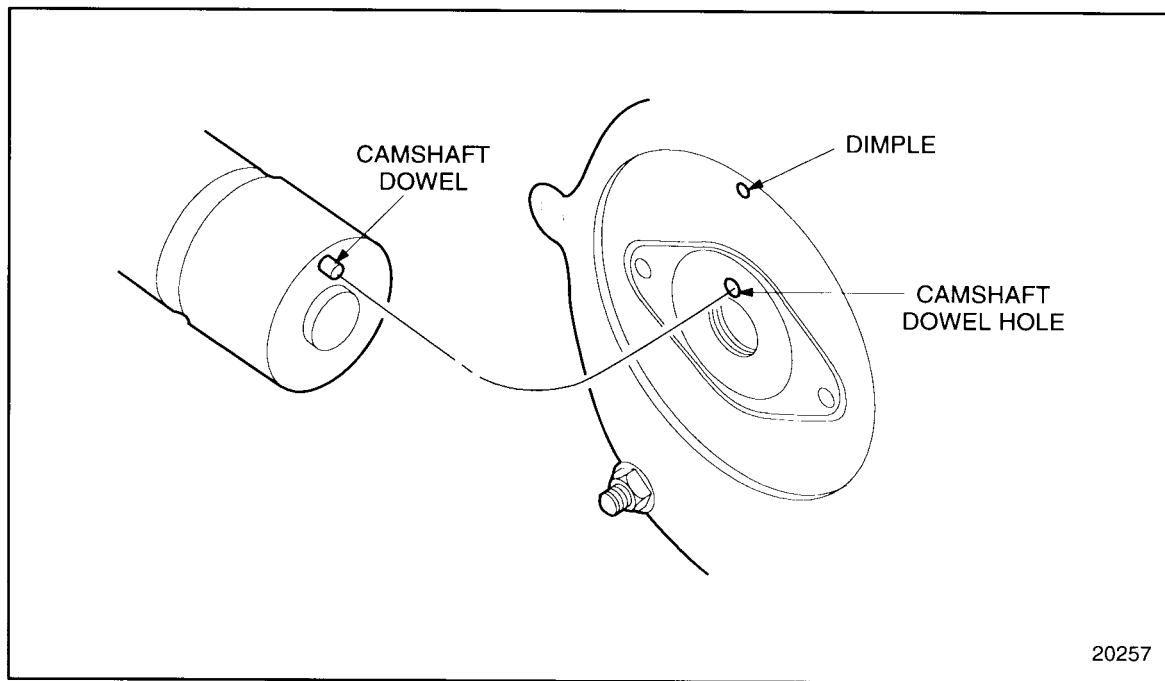

Figure 1-360 Indexing Camshaft Dowel
3. Before installing the camshaft dowel into the camshaft hub, ensure that the dimple in the thrust plate is located at the 12 o'clock position to properly position bolt holes to cam cap and cylinder head. See Figure 1-360.